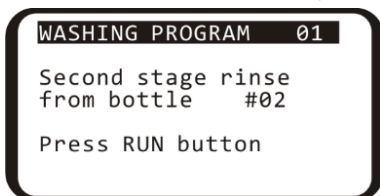

Figure 10. Second bottle confirmation
5.7.3 If the operation requires washing on two channels (parameter **On two channels** set to **YES**), then after starting the program, unit requests the confirmation of the correct bottle number for second wash. (figure 10) Select the necessary bottle number using **+** and **-** keys and press the ►/■ key.